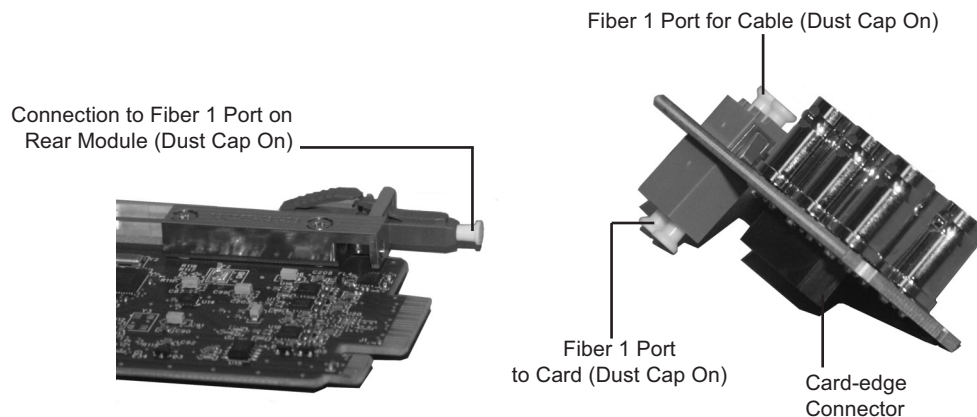
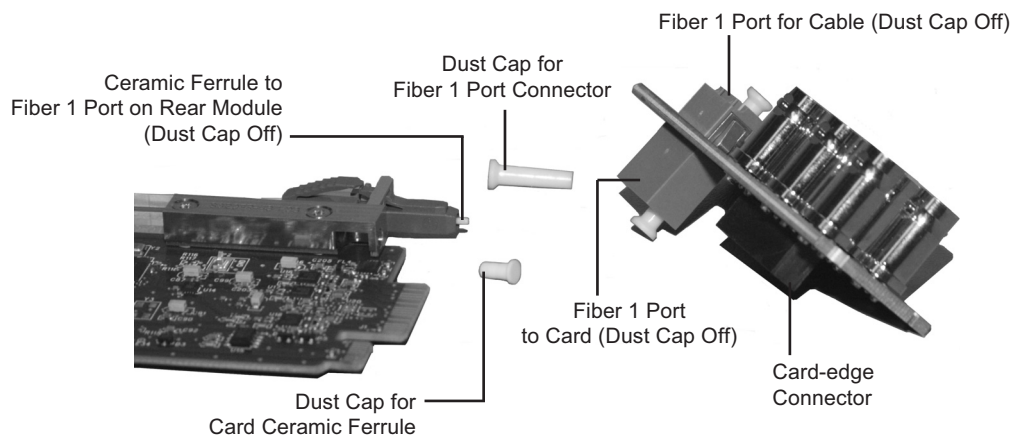

Figure 2.1 Card Connectors with Dust Caps Installed — 8320AR-044 Rear Module Shown
Figure 2.2 Card Connectors with Dust Caps Removed — 8320AR-044 Rear Module Shown
- Connectors must always be inserted into a device or have a dust cap on. Refer to **Figure 2.1** for dust cap locations.
3. Remove the dust caps from the fiber ports on the Rear Module that face the interior of the frame. Refer to **Figure 2.1** and **Figure 2.2** for dust cap locations.
- Refer to **Figure 2.1** and **Figure 2.2** for dust cap locations.